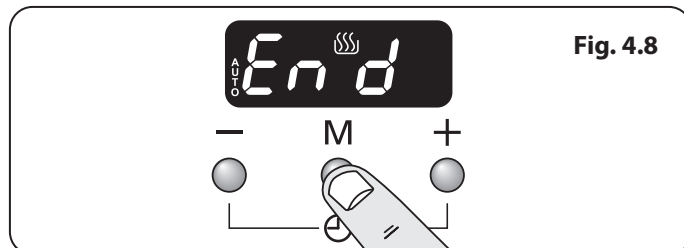
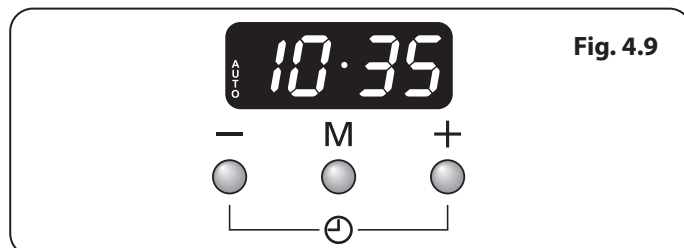

Fig. 4.8
Fig. 4.9
2. Press the mode [M] button until the display flashes 'End' (**Fig. 4.8**). Then set the 'stop time' using the [+] or [-] buttons. Current time will be displayed along with the word 'AUTO' (**Fig. 4.9**).